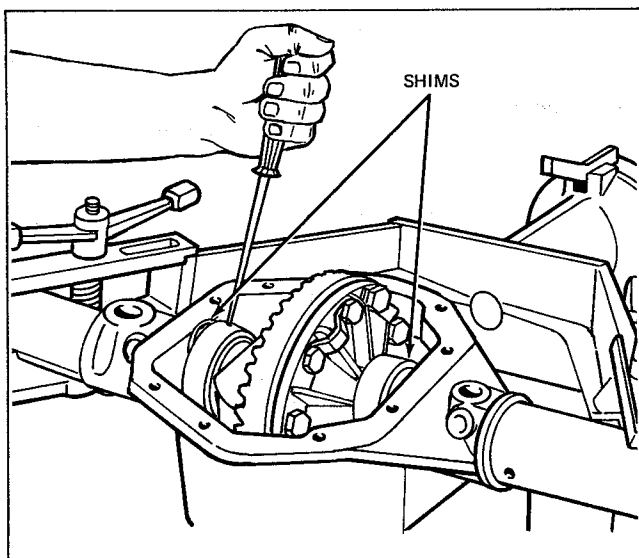

Figure 2-17. Adding Shims
16. Install oil slinger (21) and pinion nut (20). Finish tightening nut with torque wrench and socket to 50 to 70 ft.-lbs.
17. Check torque to turn drive pinion. Drive pinion shaft must be vertical for this check. Use a small torque wrench, reading in inch-pounds, and socket on shaft nut. Turning torque should be 2 to 13 in.-lbs. Torque reading to start shaft turning will be disregarded. If torque is more than 13 in.-lbs, it will be necessary to add a sufficient number of shims to those previously placed on drive pinion to reduce turning torque. If torque reading is low, remove shims. Shims are available in the following thicknesses: .003", .005", .010", and .030". If torque reading is correct, stake top of pinion nut (20) in two places and install pinion nut cup (19).
18. Place drive gear and differential case assembly, bearing cups included, in carrier. Place bearing caps (5) in their respective positions, align identification marks, with screws (4) finger tight.
19. Move drive gear into drive pinion and, from shim requirements as determined in Step 9, place shims (11) between cup and carrier as shown in Figure 2-17. Force shims in both sides so as to use total required and have gear rotate with no backlash.